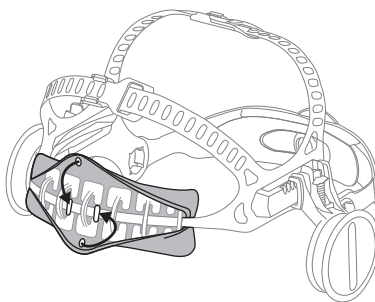

Fig. 18b
- c. Pull the sweatband holding loops over the hooks on the retainer for a secure fit (Fig. 18b and 18c).